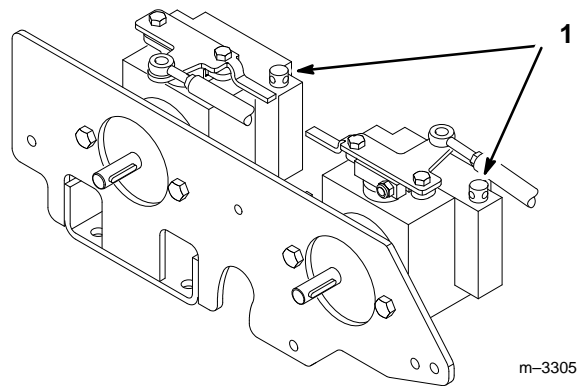

Figure 11
2. Rotate pump by-pass valves counterclockwise 2 turns to push. This allows hydraulic fluid to by-pass the pump enabling the wheels to turn (Fig. 11).
1. Turn the by-pass valves in to operate (Fig. 11).